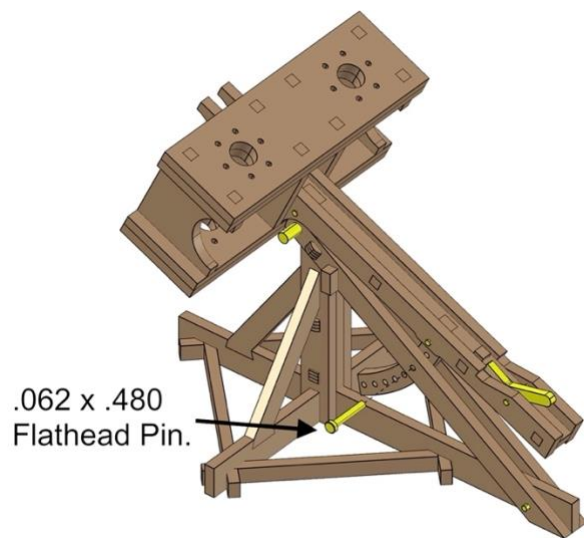

Fig. 62
- A .062 x .480 Flathead pin can be used to lock the Ballista in place (Fig. 62).